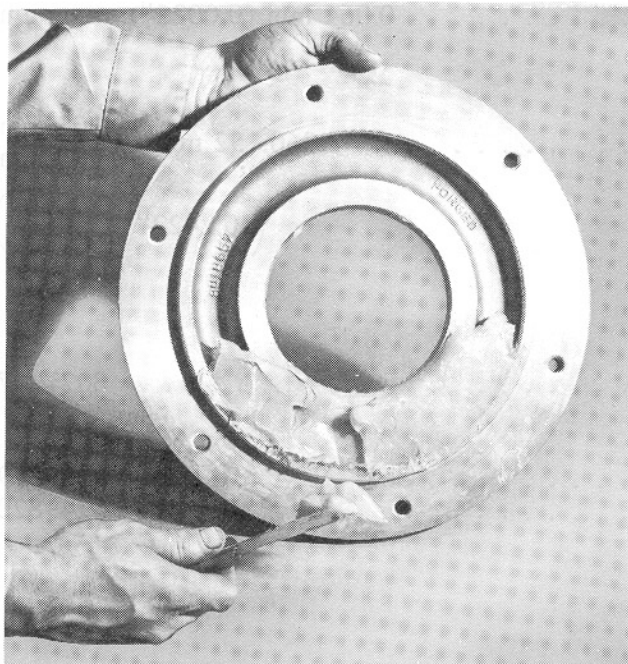

Fig. 9 - Roughly Formed Grease Contour 18931
a. After weighing, use spatula or putty knife to apply grease to cap or cover. Roughly form grease, as shown in Fig. 9, into approximate desired contour.